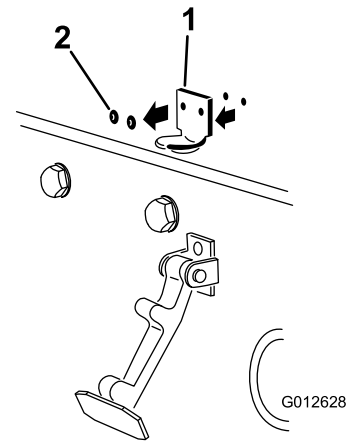

Figure 30
2. Remove the rivets (2) securing the hood-latch bracket to the hood (Figure 30). Remove the hood-latch bracket from the hood.